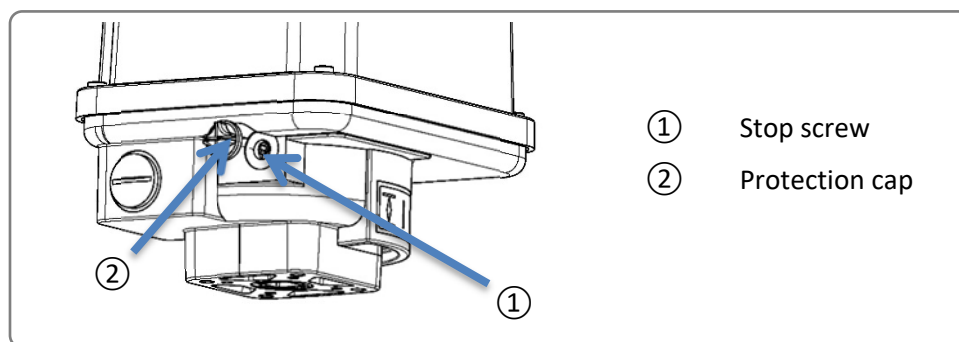

figure 6: Mechanical stop
- Remove the protection cap (figure 6, Pos. 2) from the stop screw.
- Turn stop screw for closed position (figure 6, Pos. 1) finger tight, then a half turn back.